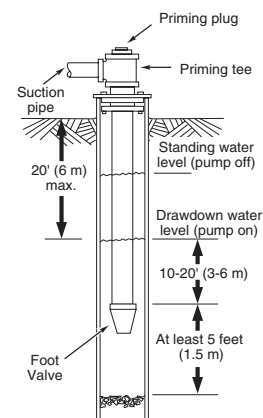

FIGURE 1-
5. When using a foot valve, a priming tee and plug are recommended (Figure 1).
5. If long, horizontal pipe runs have to be used, install a priming tee between the check valve and the well head (Figure 1). Use schedule 80 or iron pipe.